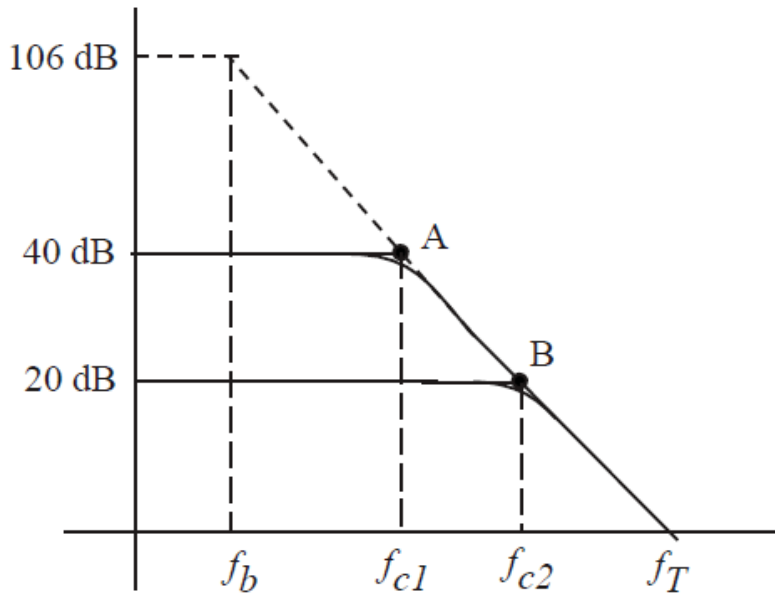

Figure 1.12
- f. Extend a line through the points A and B, as shown in Figure 1.12. Draw a horizontal line at gain = 106 dB (this is the open loop gain of this op-amp). Record the frequency where these two lines intersect. This is f_b , the open loop gain cutoff frequency.